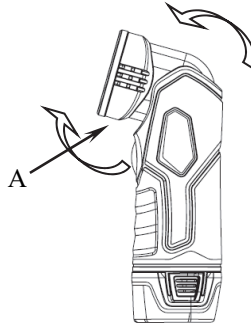

Fig. 3
1. Hold the swiveling head (see Fig. 3) in one hand and hold the back end of the flashlight in the other.